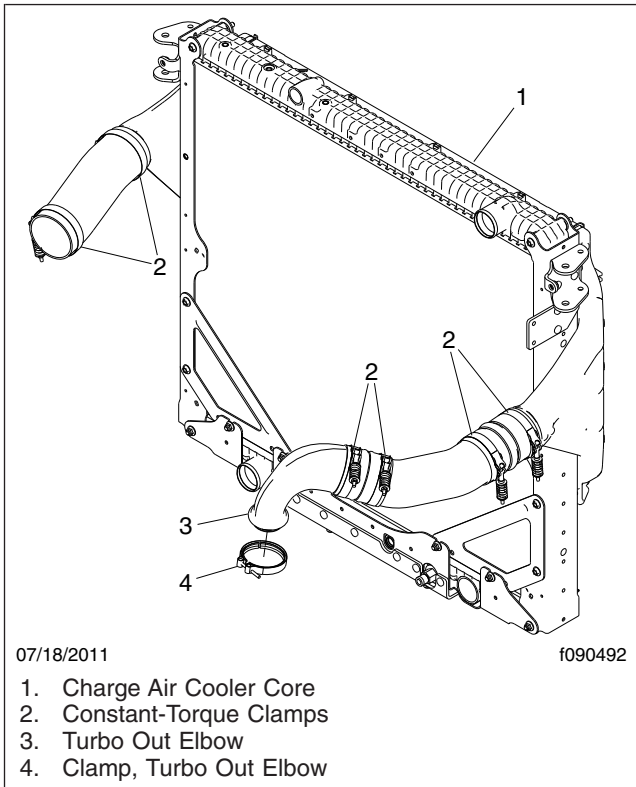

Fig. 14, Charge Air Cooler and Piping
1. Check the condition of the charge air cooler piping and clamping hardware. If damaged, replace components and carefully reassemble it to ensure proper penetration and alignment. Tighten the constant-torque clamps 98 lbf·in (11 N·m), and the turbo-out-elbow clamp 62 lbf·in (7 N·m). See Fig. 14.